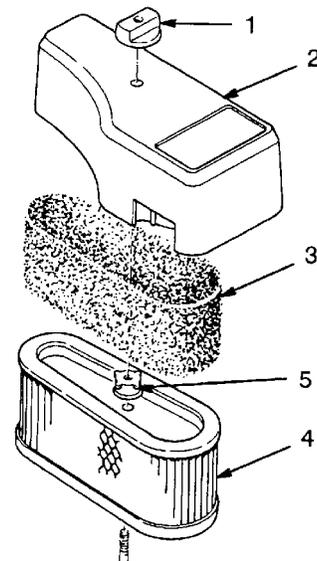

Figure 18
2. Remove the knob and remove the air cleaner cover (Fig. 18).
3. Carefully slide the foam element off of the paper element (Fig. 18).
4. Unscrew the nut and remove the paper element (Fig. 18).
2. Carefully slide the foam element onto the paper air cleaner element (Fig. 18).
3. Slide the air cleaner assembly onto the long rod. Tighten the nut securely (Fig. 18).
4. Install the air cleaner cover and knob (Fig. 18). Tighten the knob securely.